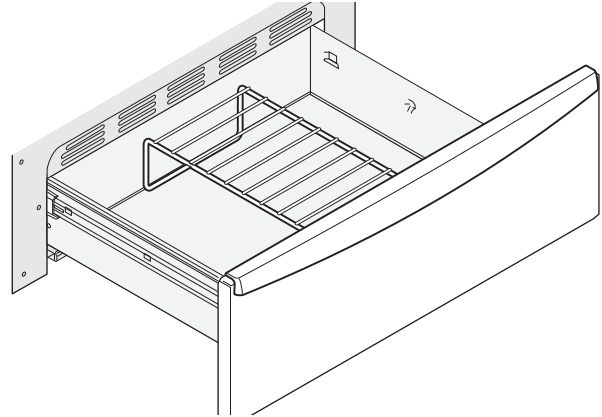

Figure 43: Warmer drawer rack in upright position
- In the **upright position** (Figure 43) to allow low profile food items to be placed both under and on top of the rack (for example, rolls or biscuits on top of the rack and a casserole dish underneath).